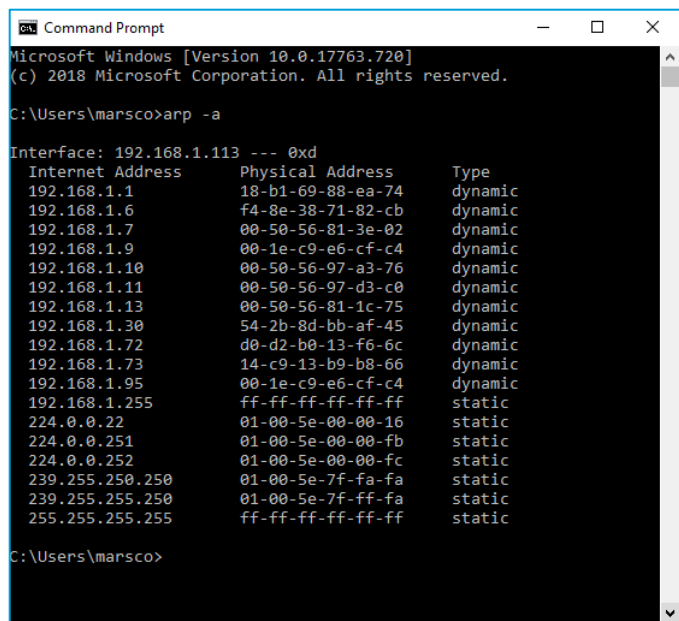

Figure 2-12: Command Prompt with arp -a command results
- » After opening the Command Prompt a user may review all available networks by using the command: `arp -a` or `ipconfig/all` as shown in Figure 2-12 and Figure 2-13